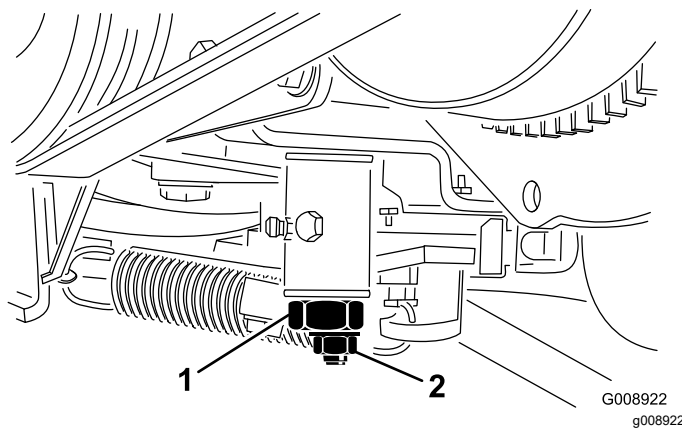

Figure 59
3. Loosen the locknut on the traction adjustment cam (Figure 59).